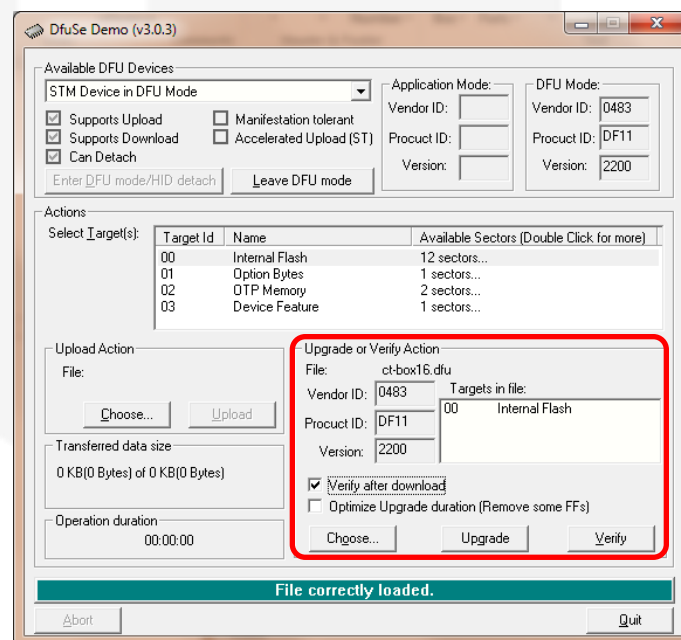

Figure 19: DfuSe Upgrade setup
- Under **Upgrade or Verify Action** (Figure 19), click on “Choose” and select the new firmware file (.dfu) to download into the CT-BOX:
- Check the boxes “Verify after download” (Figure 19) and click “Upgrade”;